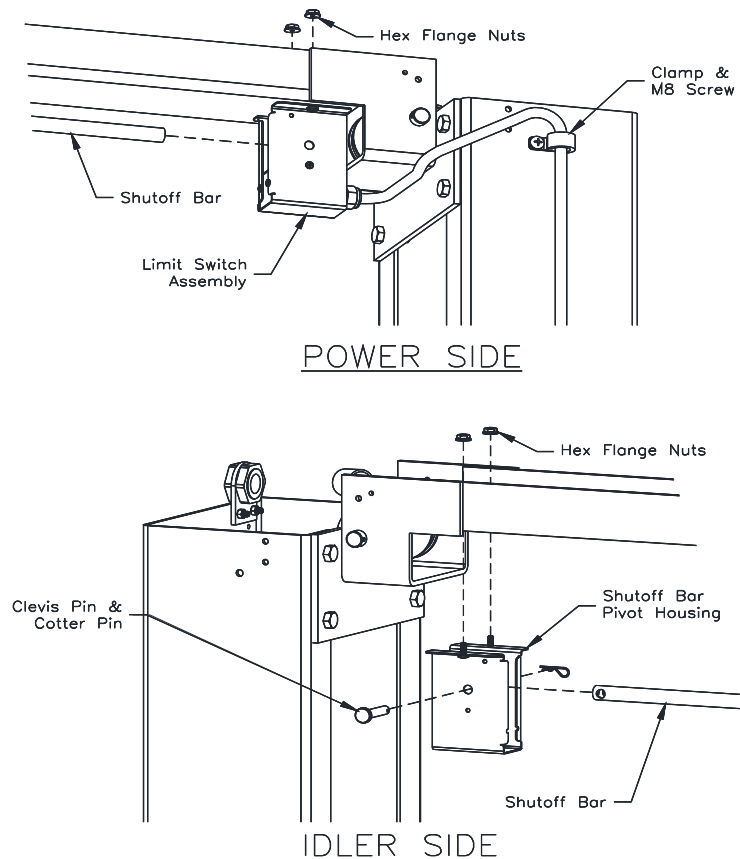

Fig. 3 - Limit Switch
- 12) Install Overhead Limit Switch and Shutoff Bar under the Overhead Beam as shown in **Fig. 3**.